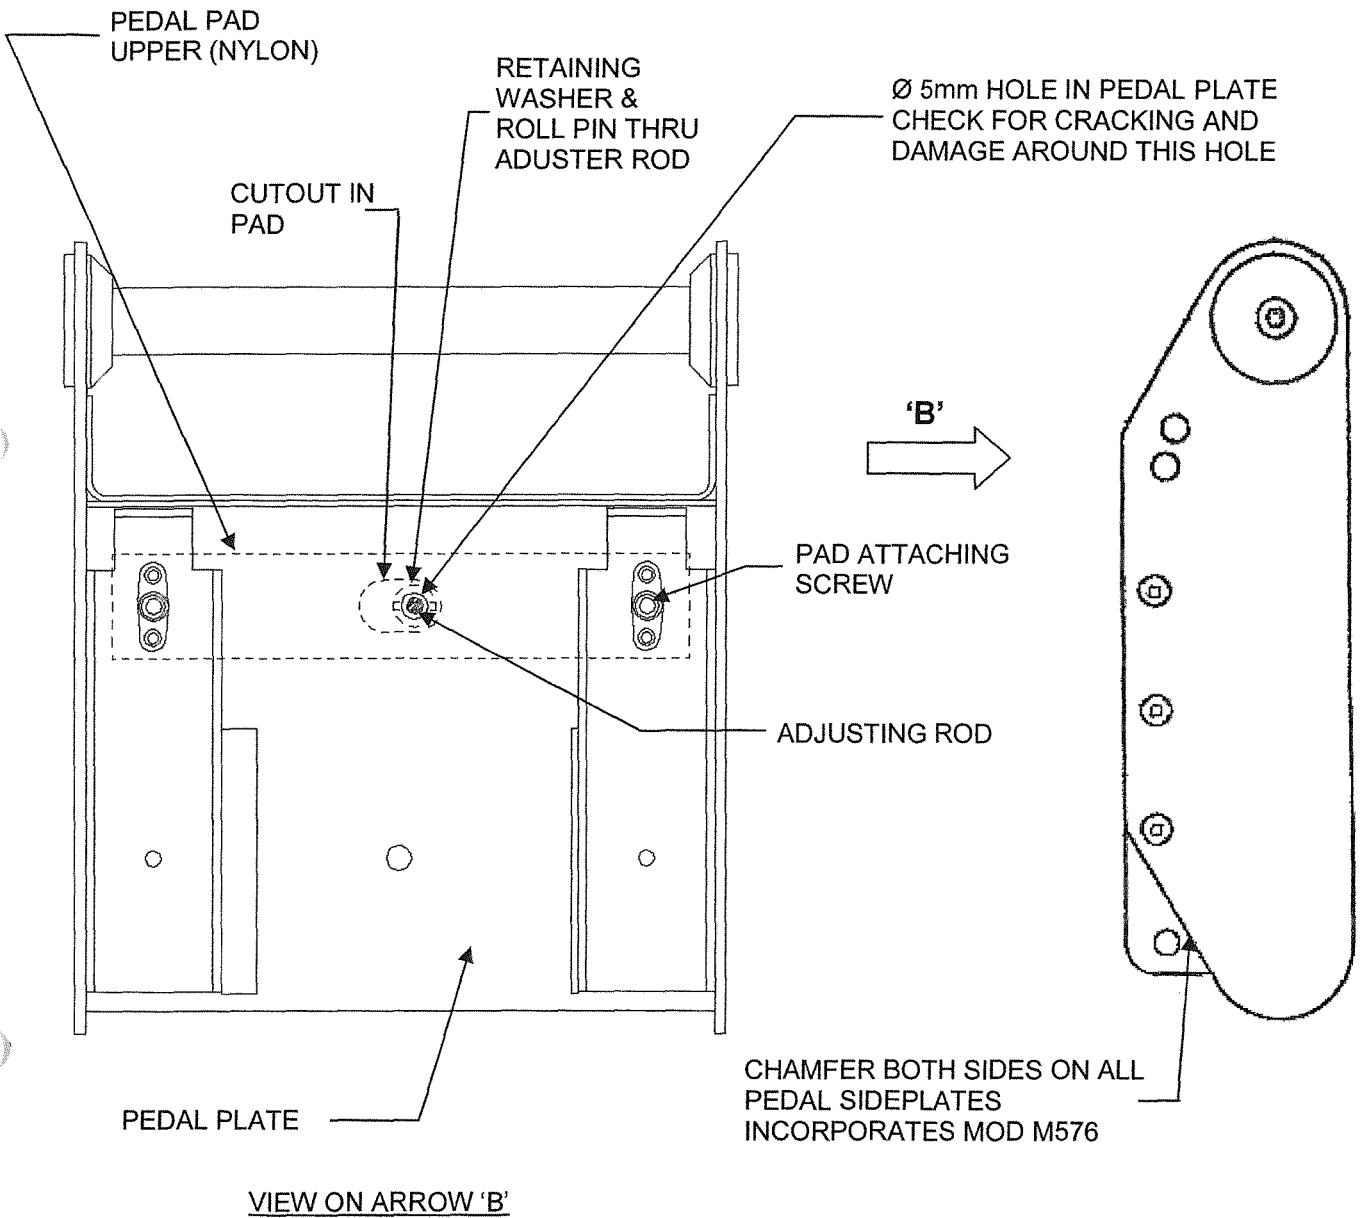

FIGURE 8
18. Ensure Mandatory Mod M576 has been invoked; AD 013-05-94 refers. Pedal side plate should be as Figure 8.
19. Check structural integrity of pedal pad assembly especially around adjuster pushrod hole pedal plate, Figure 8 View on Arrow 'B' refers, if plate is cracked or damaged the pedal pad is to be repaired. Ensure riveting is secure, if rivets are loose then they have to be rectified. Contact SACL for new pedal pad assembly, materials and any applicable repair scheme.